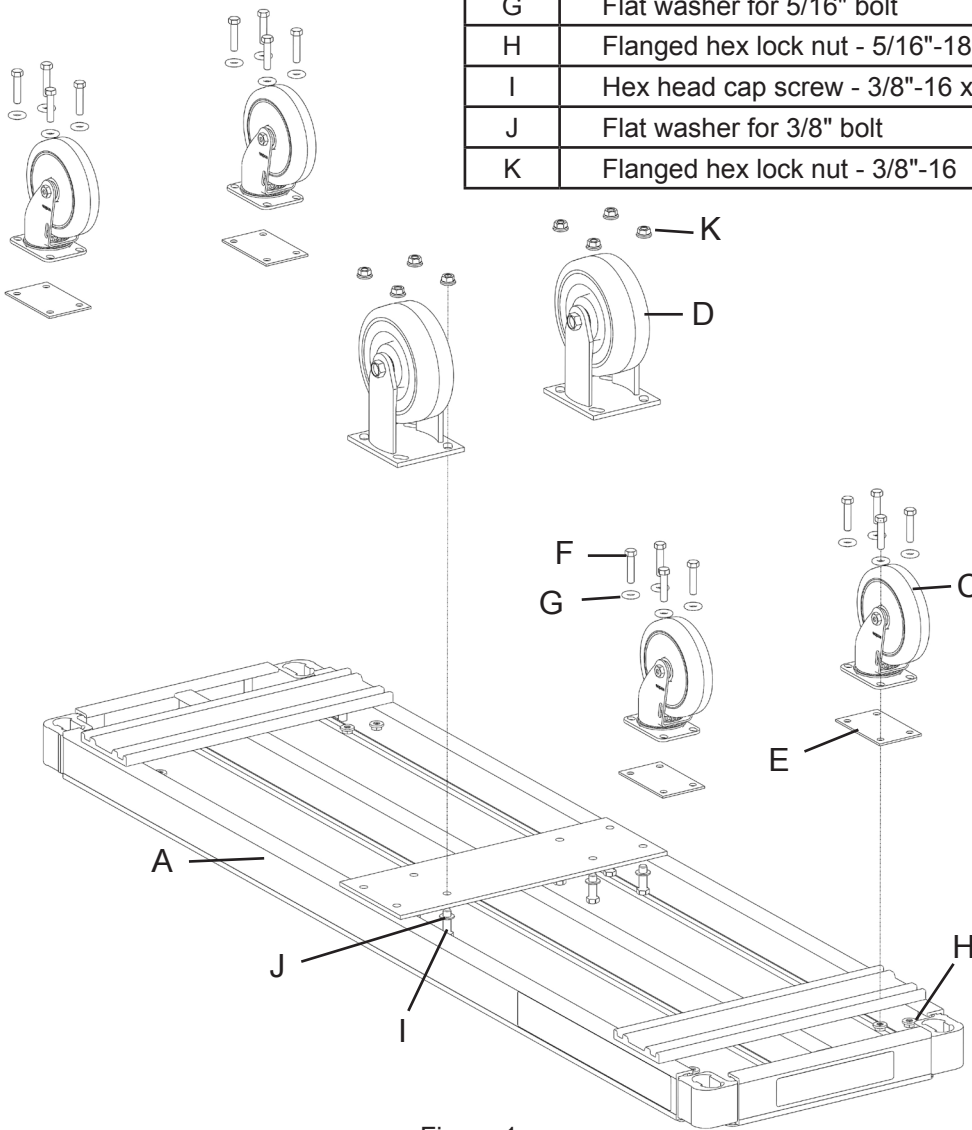

Figure 1
1. Using the 5/16"-18 x 1-1/2" hex head screws (F), 5/16" washers (G) and 5/16"-18 flanged lock nuts (H), attach all four of the swivel caster plates (E) and the 5" swivel casters (C) onto the deck as shown in Figure 1.
2. Using the 3/8"-16 x 1-1/4" long hex head screws (I), the 3/8" washers (J) and the 3/8"-16 flanged lock nuts (K), attach both of the 6" rigid casters (D) onto the deck as shown in Figure 1.